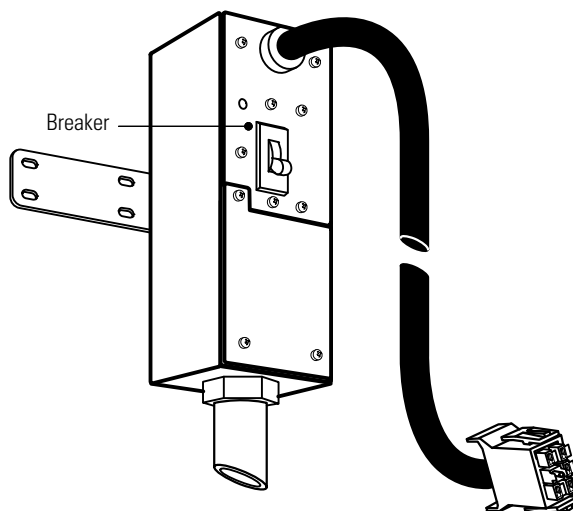

Figure 14. External Battery Interconnect with Breaker Open (OFF)
1. Verify that the External Battery Interconnect breaker is open (OFF), as shown in Figure 14.